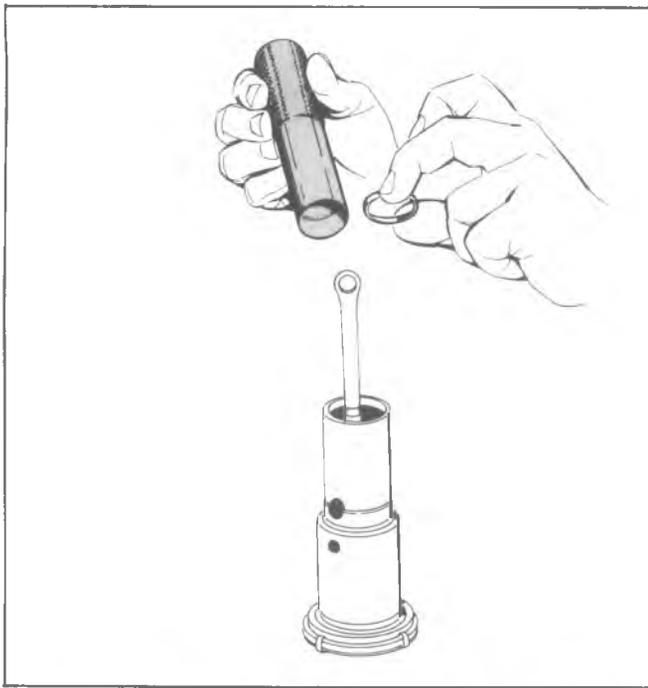
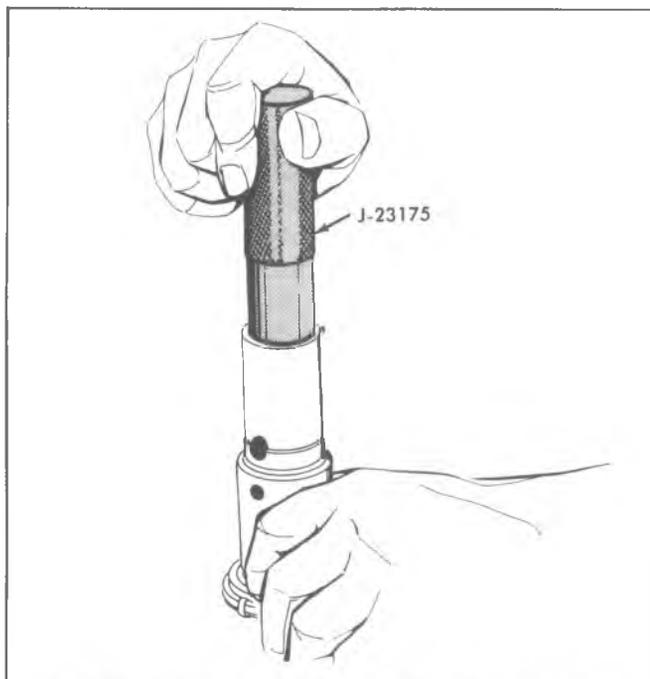

Fig. 5-4A--Installing Air Valve Push Rod Retainer
Fig. 5-5A--Seating Air Valve Push Rod Retainer Using J-23175
5. Place lip of retainer on the O.D. of Tool J-23175 (fig. 5-4A). Manually press the retainer until seated in the power piston tube (fig. 5-5A).